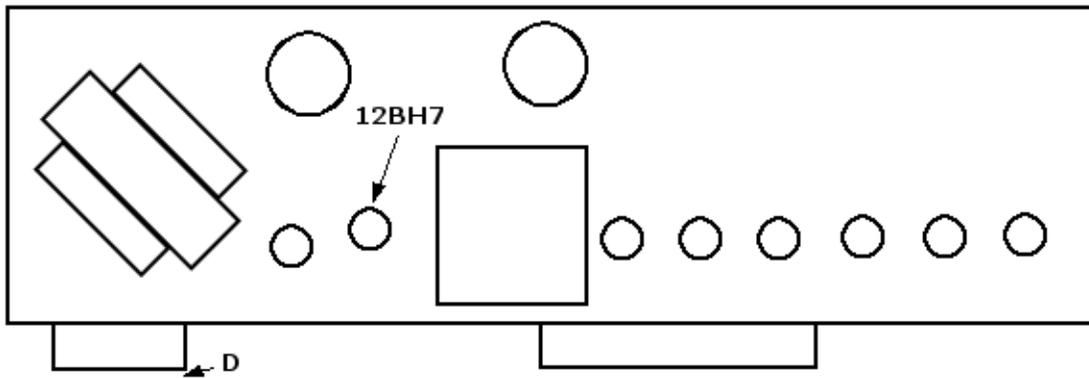

FIG 3 - Top Down view of B3 / C3 / RT3 / A100* / D100* Preamp
19. Remove the 12BH7 (B3 / C3 / RT3 / A100 / D100) or 6SN7 (B2 / C2 / RT2) tube from the preamp. (See Figs. 3 & 4.)
22. Remove one of the screws from the terminal cover plate ("D" in Fig. 3) and then reinstall it with the ground pigtail under the screw.